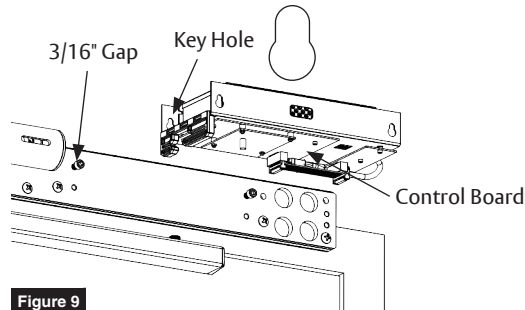

Figure 9
1. Insert two (2) screws. Leave 3/16" gap between head of screw and backplate. (Figure 9)
2. Slide power supply key holes over screws allowing narrow slots of key holes to rest on screws. (Figure 9)
**NOTE:** Narrow slots of key holes are always at top and control board is always at bottom for proper installation. (Figure 9)